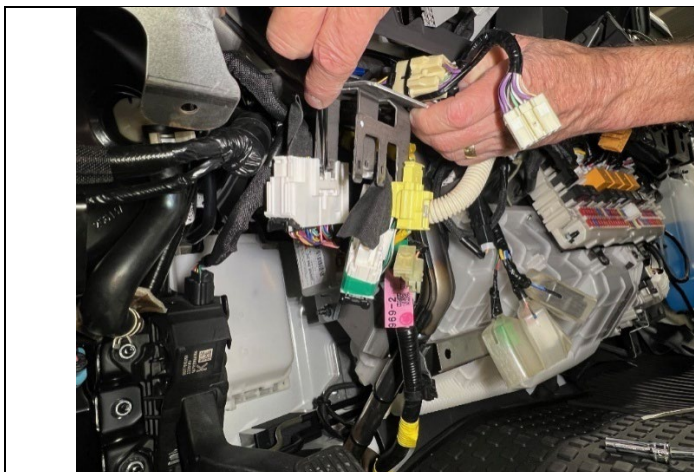

Figure 16
20. Remove the H99 connector by carefully lifting the white tab on the connector and sliding it off the bracket. (See Figure 16.)